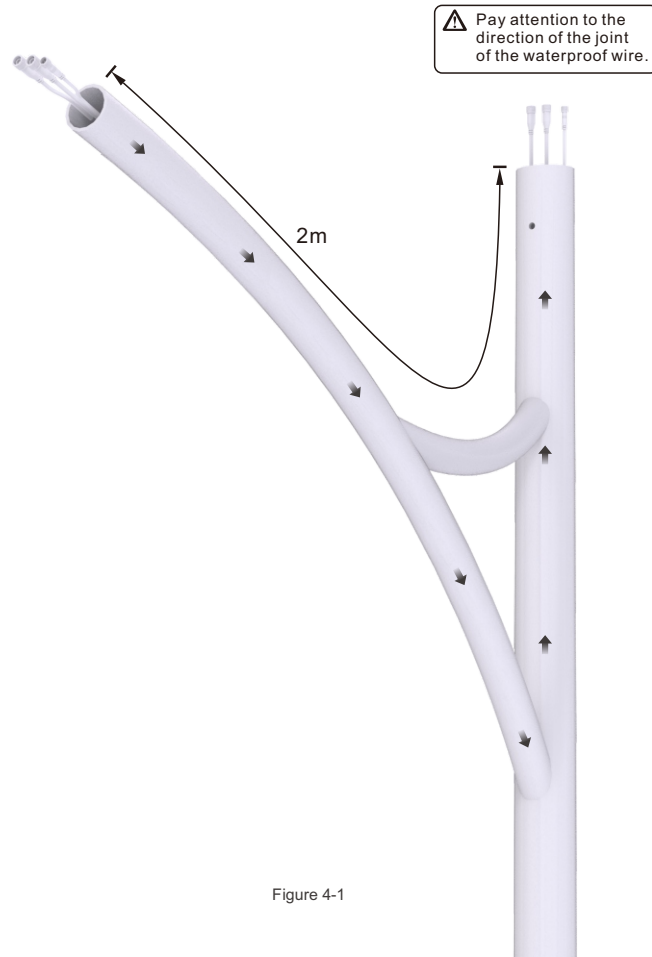

Figure 4-1
- 1 Push the waterproof wires through the lamp arm and the top of lamp pole. (See Figure 4-1)